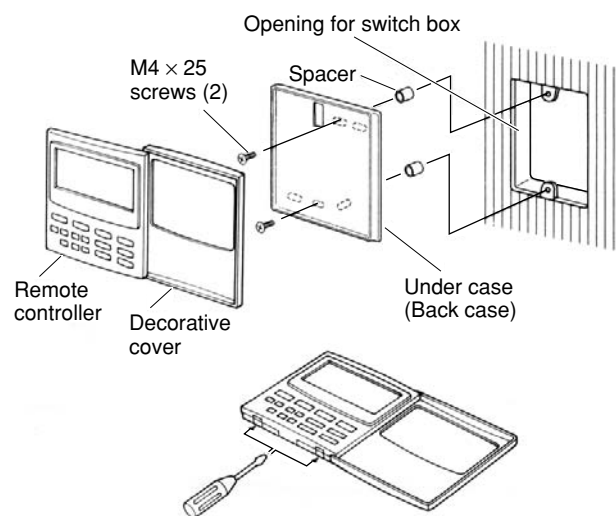

Fig. 6-1
- (1) When you open the decorative cover, you will see 2 gaps under the remote controller. Insert a coin into these gaps and pry off the back case. (Fig. 6-1)
- (2) Attach the back case with the 2 small screws provided. Using a screwdriver, push open the cut-outs on the back case. These holes are for screws. Use the spacers and take care not to tighten the screws excessively. If the back case will not seat well, cut the spacers to a suitable thickness. (Fig. 6-1)
- (3) Connect the remote controller wiring (3 wires) correctly to the corresponding terminals in the electrical component box of the indoor unit.